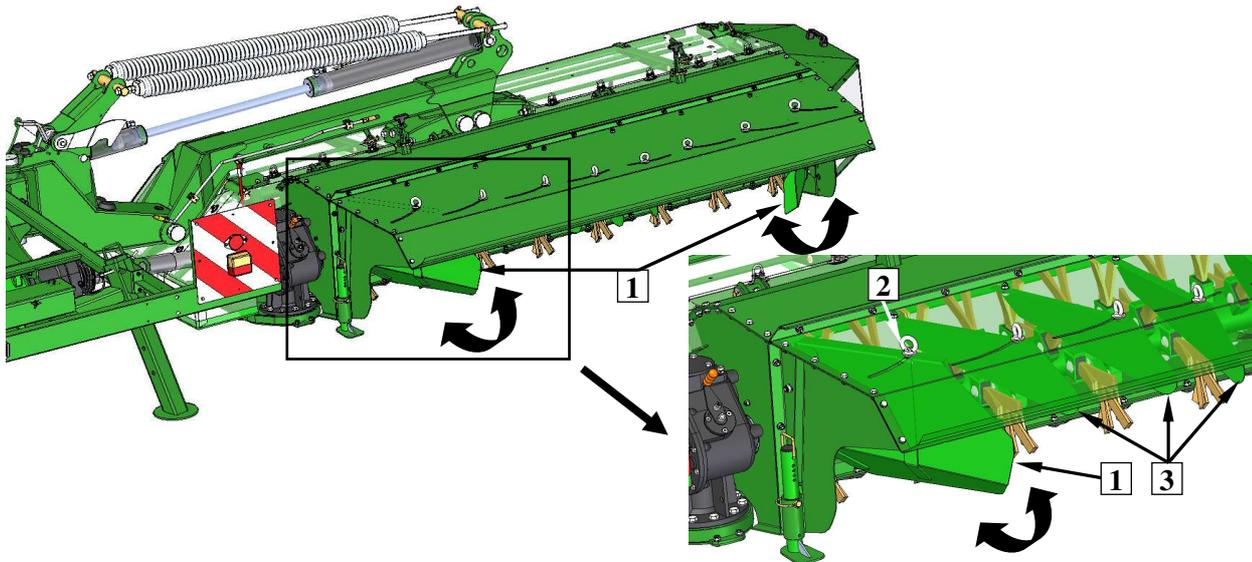

Fig. 34. Adjustment of swath guides: 1- swath guide, 2 - adjustment screw, 3 - swath wheel
In order to set swath width, adjustment of swath guides (1) should be performed (**Fig. 34**) (for: KDD S/ST/SL/SLT (H)):
- ❑ loosen eye screw (2) of the swath guide,
- ❑ set the swath guide (1) as needed,
- ❑ tighten screw (2),
- ❑ even spreading of swath might be adjusted with wheels (3) the same as it is performed with guides.